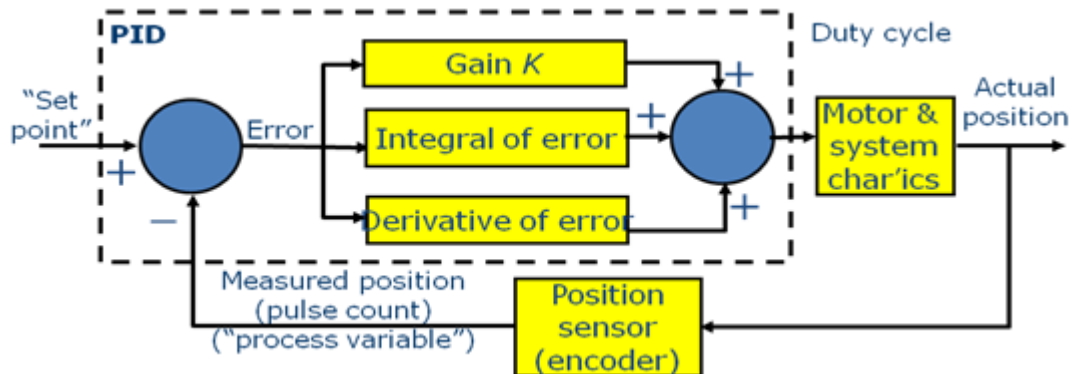

Figure 15 PID Control Loop
- PID Control: The PID control is more complicated, as shown in Figure 15, and we are using an existing library to implement this.